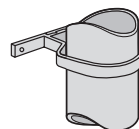

Fig. 8b 143 Bracket on pipe
**Step 1** – Fit bracket round the pipe at required support position (Fig. 8b) (see recommended distances table, page 6)